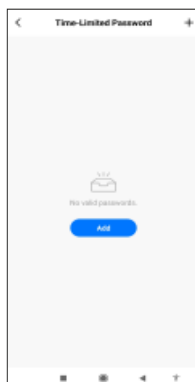

Fig. 39.
4. Click on add or click on "+" sign (Right Side Top Corner). Fig. 39.